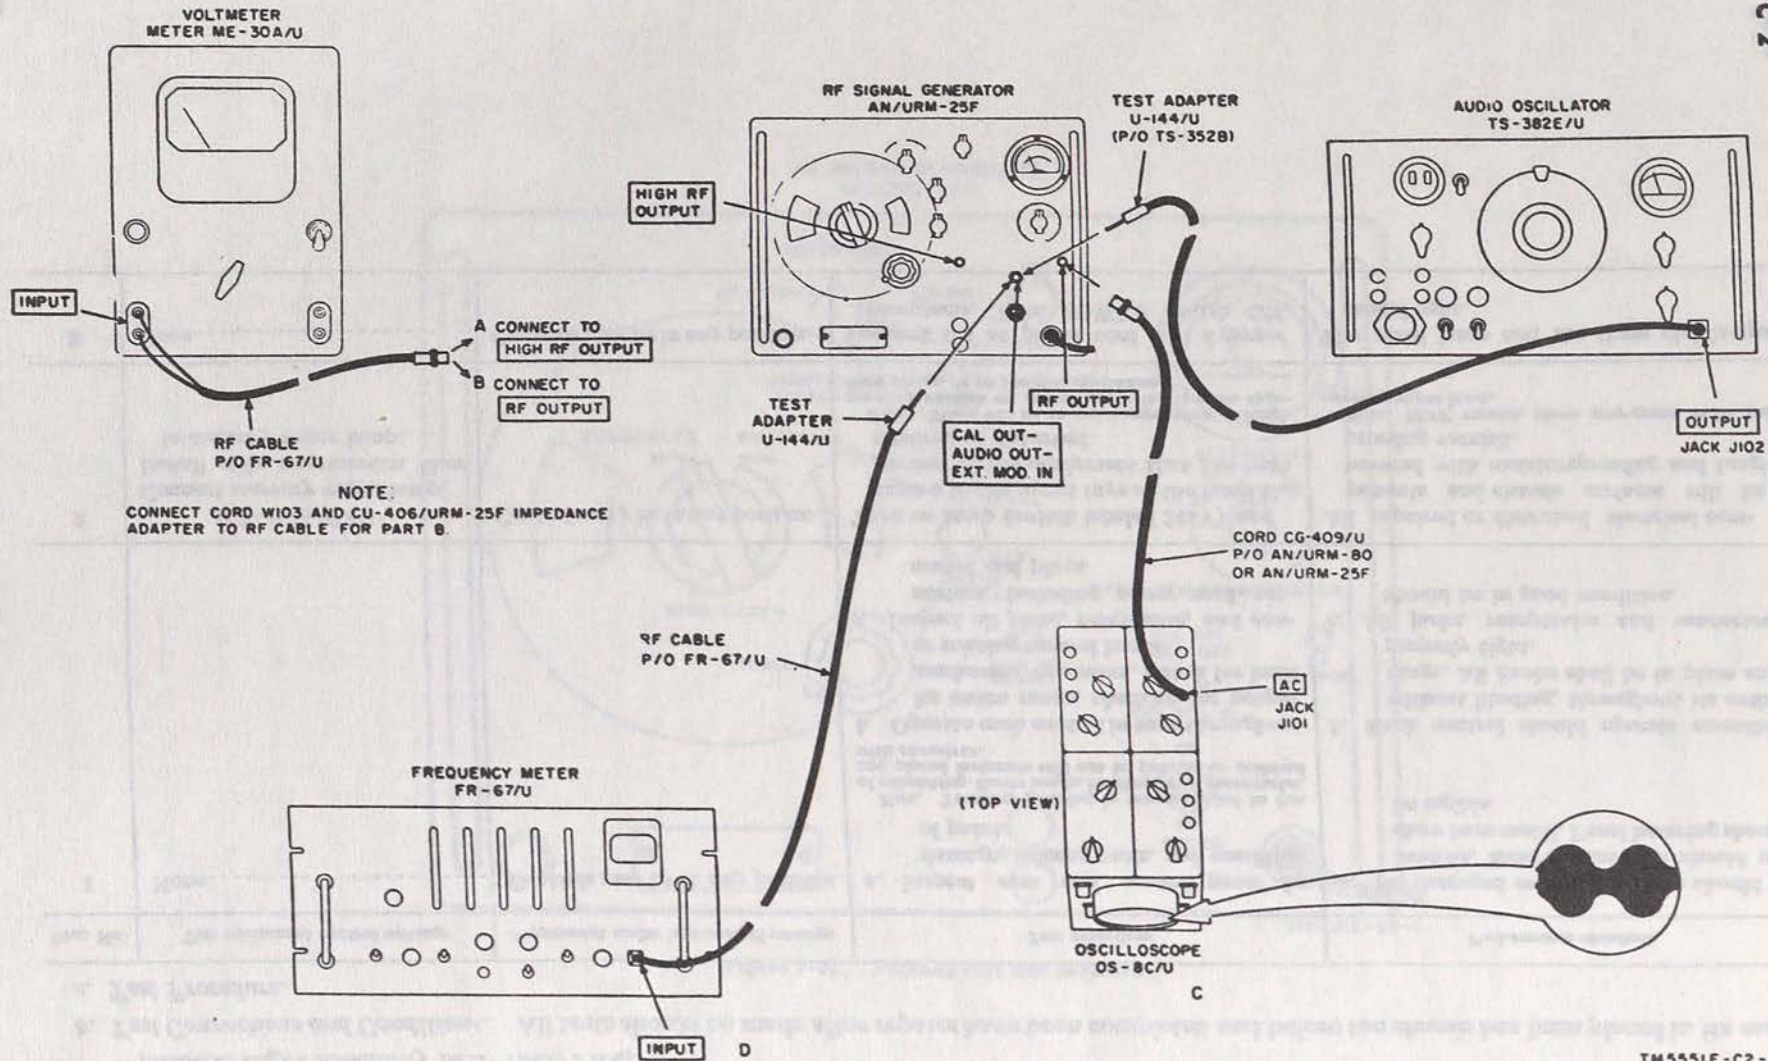

Figure 7-16. RF output and modulation tests.
(fig. 7-16)
b. Test Connections and Conditions. Connect ME-30A/U and TS-382E/U to AN/URM-25F equipment as indicated in A, figure 7-16. Adjust controls and settings as indicated below. Turn on the test equipment and allow 15 minutes warmup period.